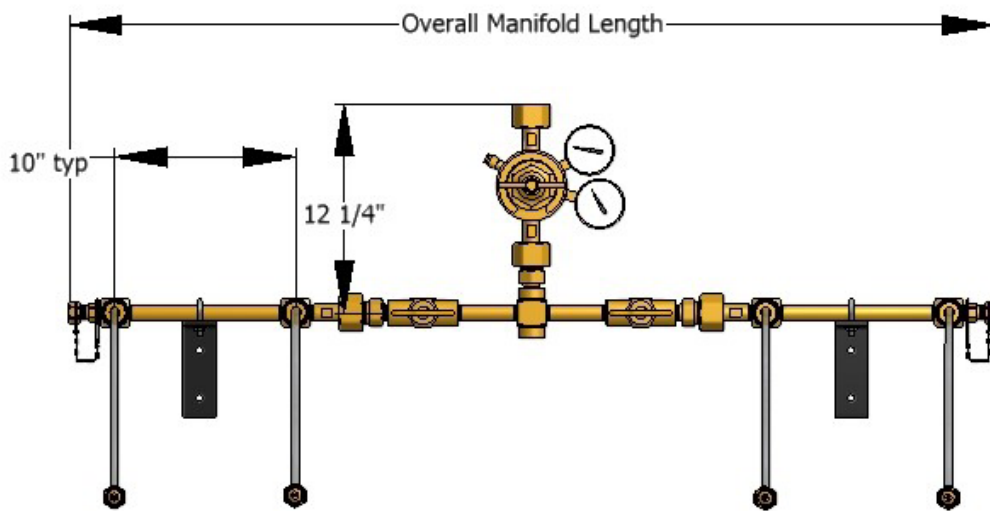

Figure 2
Figure 2 depicts manifold part # PX-TMD-540-4B. In this drawing the manifold is designed to be used with one bank being placed in service by opening the cylinder valves and the master valve while the other bank is held in reserve by keeping the cylinder valves closed.
1. Determine and mark the vertical center line for installation of the manifold. (Figure 2).